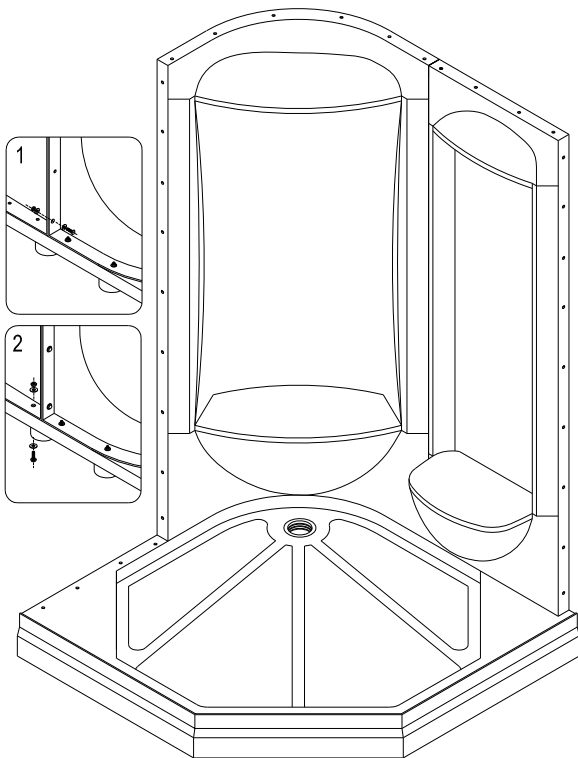

Fig 7
7. Connect the **Back panel (02)** and the **Side panel (03)** with **Bolt M6x16 (with nut, washer) (24)**. Secure the side panel to the tray with **Bolt M6x25 (22)**. (In these instructions the panel is shown on the right side of the tray, but for reverse installation - the side panel can also be installed on the left of the tray). See Fig 7 for details.